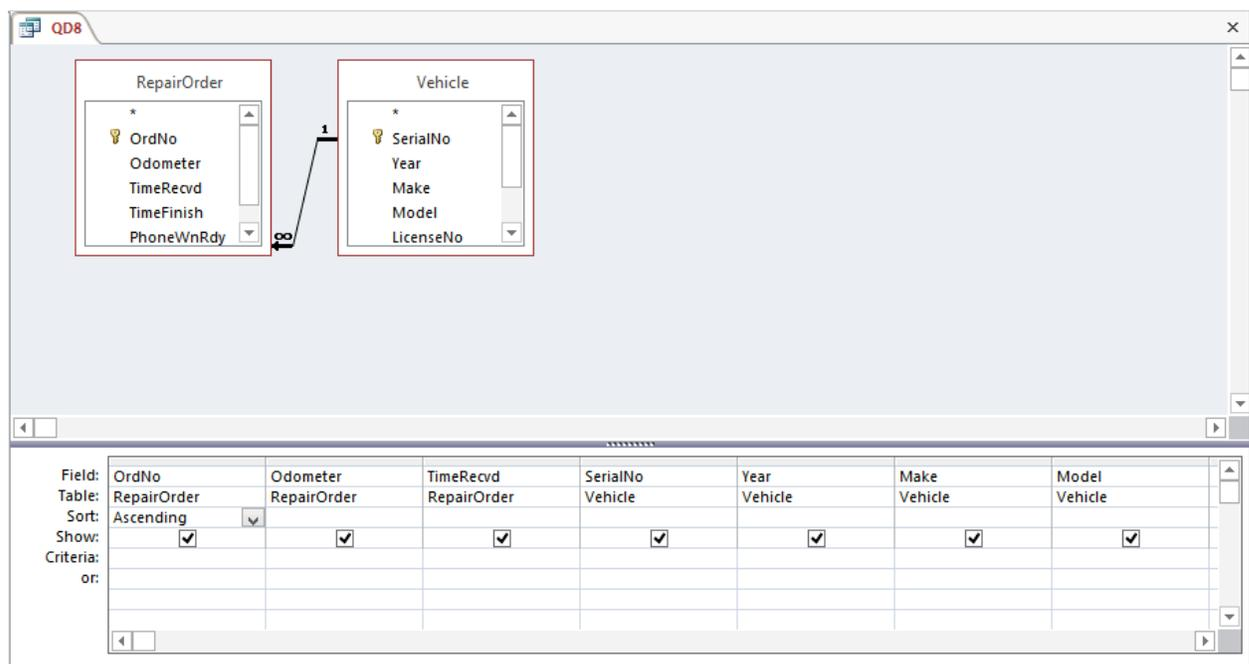

Figure 31: Query Design Window of Completed “QD8”
9. Change the Connection Type: In the Query Design window, double-click on the line connecting the tables to open the Join Properties window (refer back to Figure 27). Select the second choice, “Include ALL records from ‘Vehicle’ and only those records from ‘RepairOrder’ where the joined fields are equal.”, and then click **OK**. This choice connects the tables with a one-sided join that preserves the *Vehicle* records. In Figure 31, note the arrow from the *Vehicle* to the *RepairOrder* table indicating a one-sided outer join.